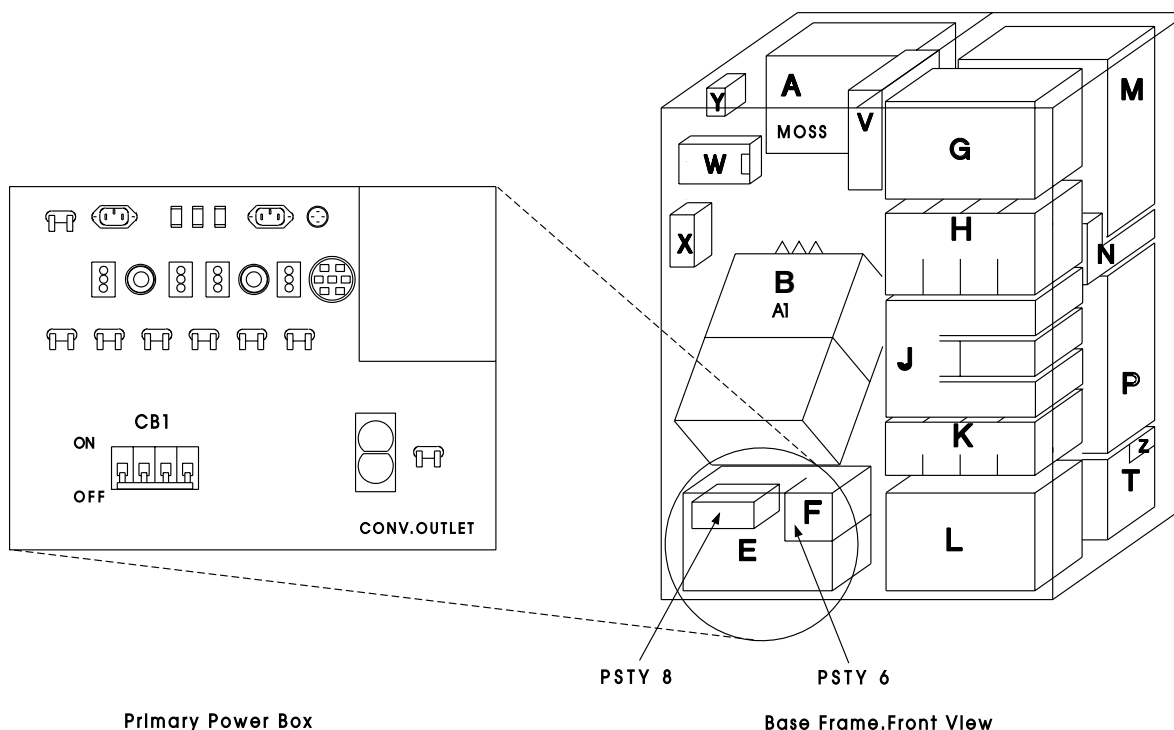

Figure 4-148. Primary Power Box in Frame 01
3. Switch **CB1** OFF. Refer to Figure 4-148 for the location of the CB1.